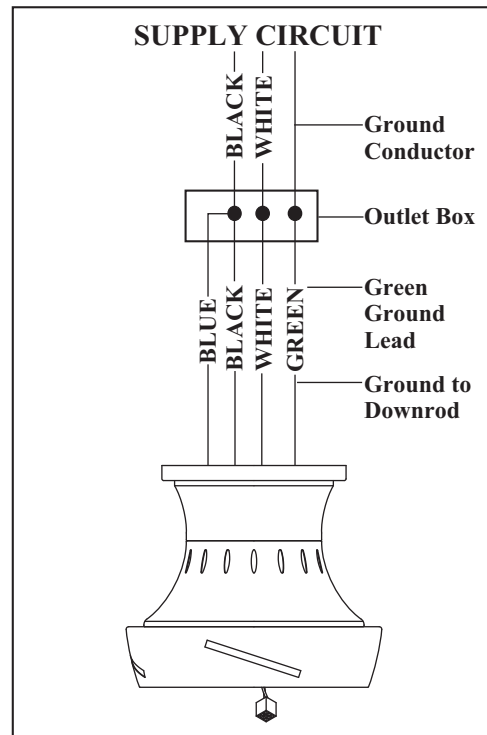

Figure 16
1. Connect the ground conductor of the 120V supply (this may be a bare wire or a wire with green colored insulation) to the green ground lead(s) of the fan (Figure 16).
3. Connect the fan motor black wire to the supply black (hot) wire using a wire nut (Figure 16).